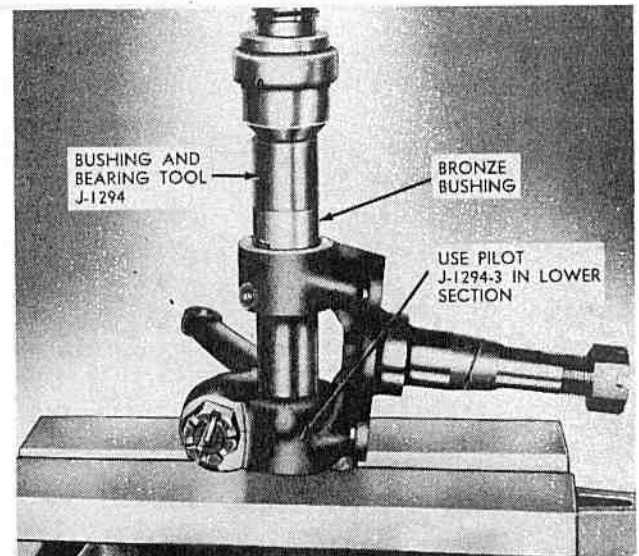

FIG. 195
**CHAMPION** After inserting Pilot J-1294-3 in the lower section of the steering knuckle, place the knuckle in an arbor press. Then slide the bronze bushing on the Steering Knuckle Bushing and Bearing Tool J-1294 and press the bushing into the upper section of the knuckle until the bushing and knuckle are flush. Be sure to line up the oil hole in the bushing with the lubrication-fitting hole in the knuckle (see Fig. 195).